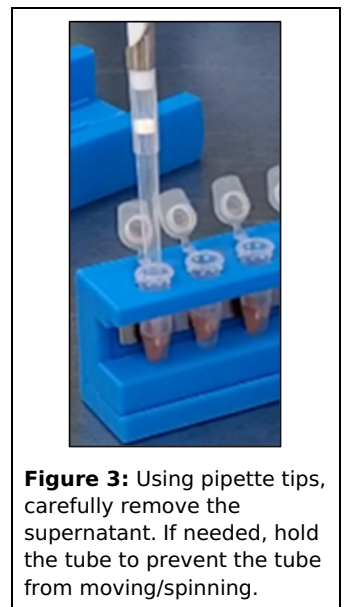

Figure 3: Using pipette tips, carefully remove the supernatant. If needed, hold the tube to prevent the tube from moving/spinning.
- Using a pipette, discard the supernatant without disturbing the beads (Figure 3). Remove the tube rack from the magnetic stand.